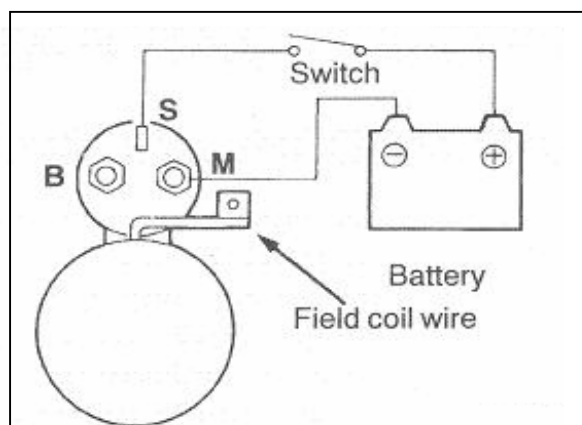

Fig. 9-3
1) Pinion gap adjustment (see Fig.9-3)